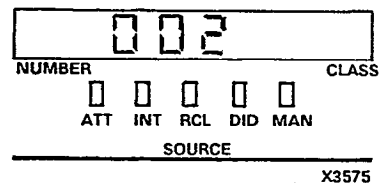

Figure 320-2
- * SOURCE display (Figure 320-2) shows total number of rooms with 'Do Not Disturb' facility